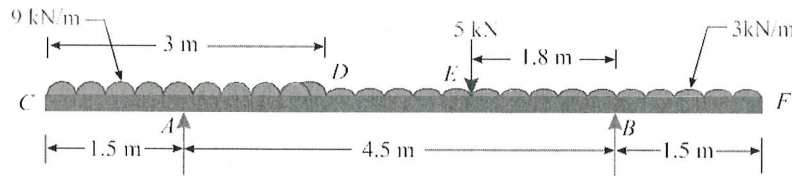

Fig.3
- 4 a) Draw SFD & BMD for the overhanging beam shown in fig. 3. Show all the calculations in detail. 10